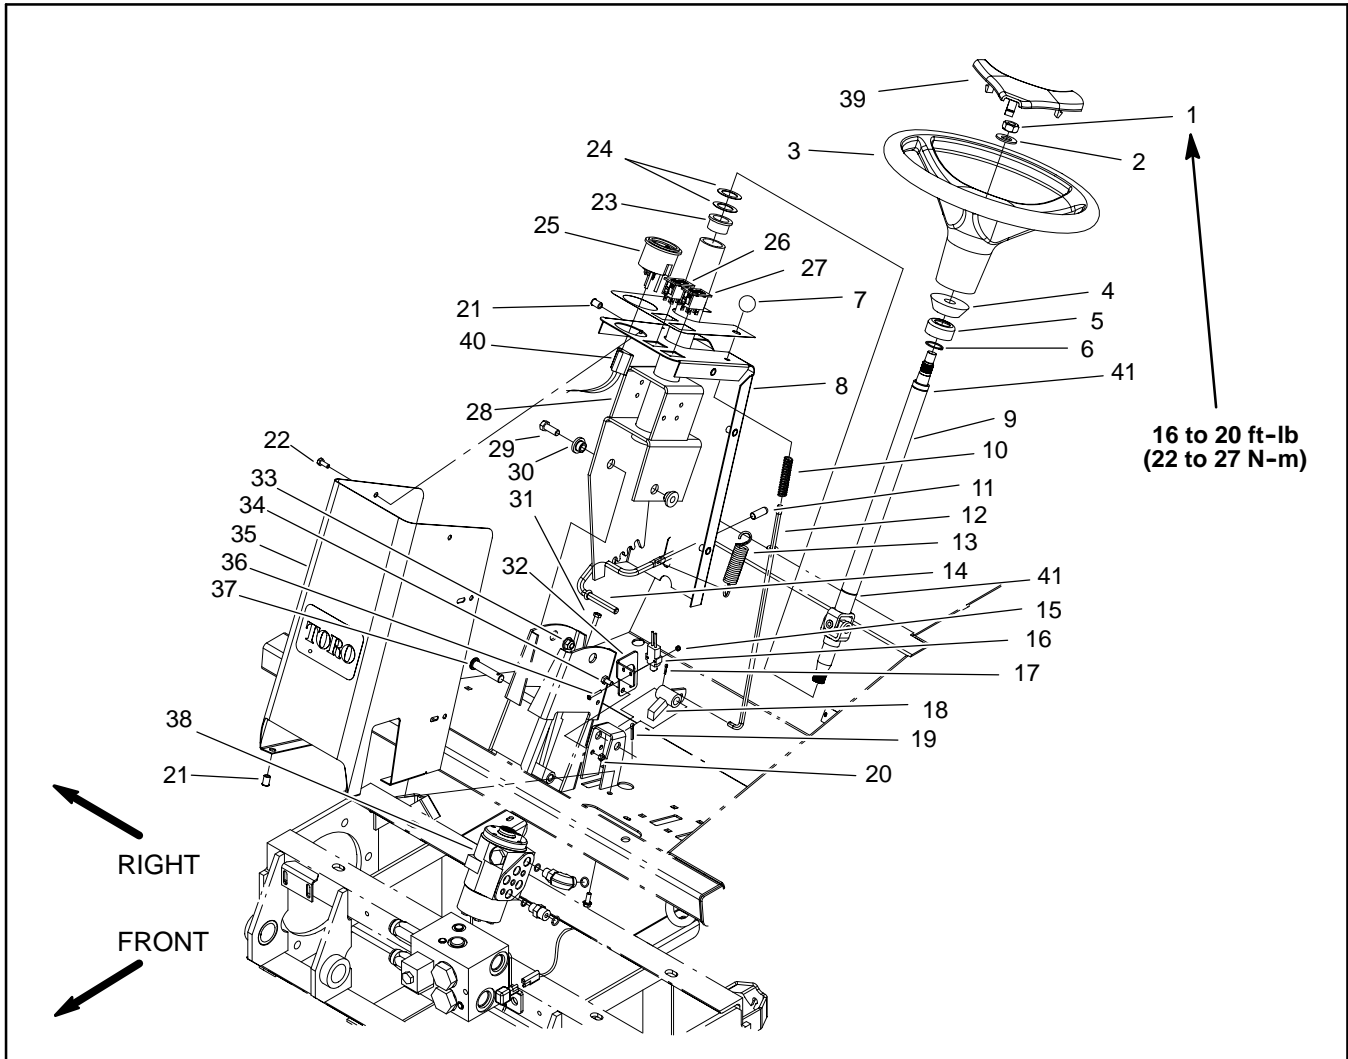

Figure 1
Disassembly (Fig. 1)
2. Disassemble steering tower as needed using Figure 1 as a guide.
Assembly (Fig. 1)
1. Assemble steering tower using Figure 1 as a guide.
- A. Thrust washer(s) (item 24) on steering column are used as needed to remove end play of steering shaft.
- B. If steering wheel was removed, torque hex nut (item 1) from **16 to 20 ft lb (22 to 27 N-m)**.